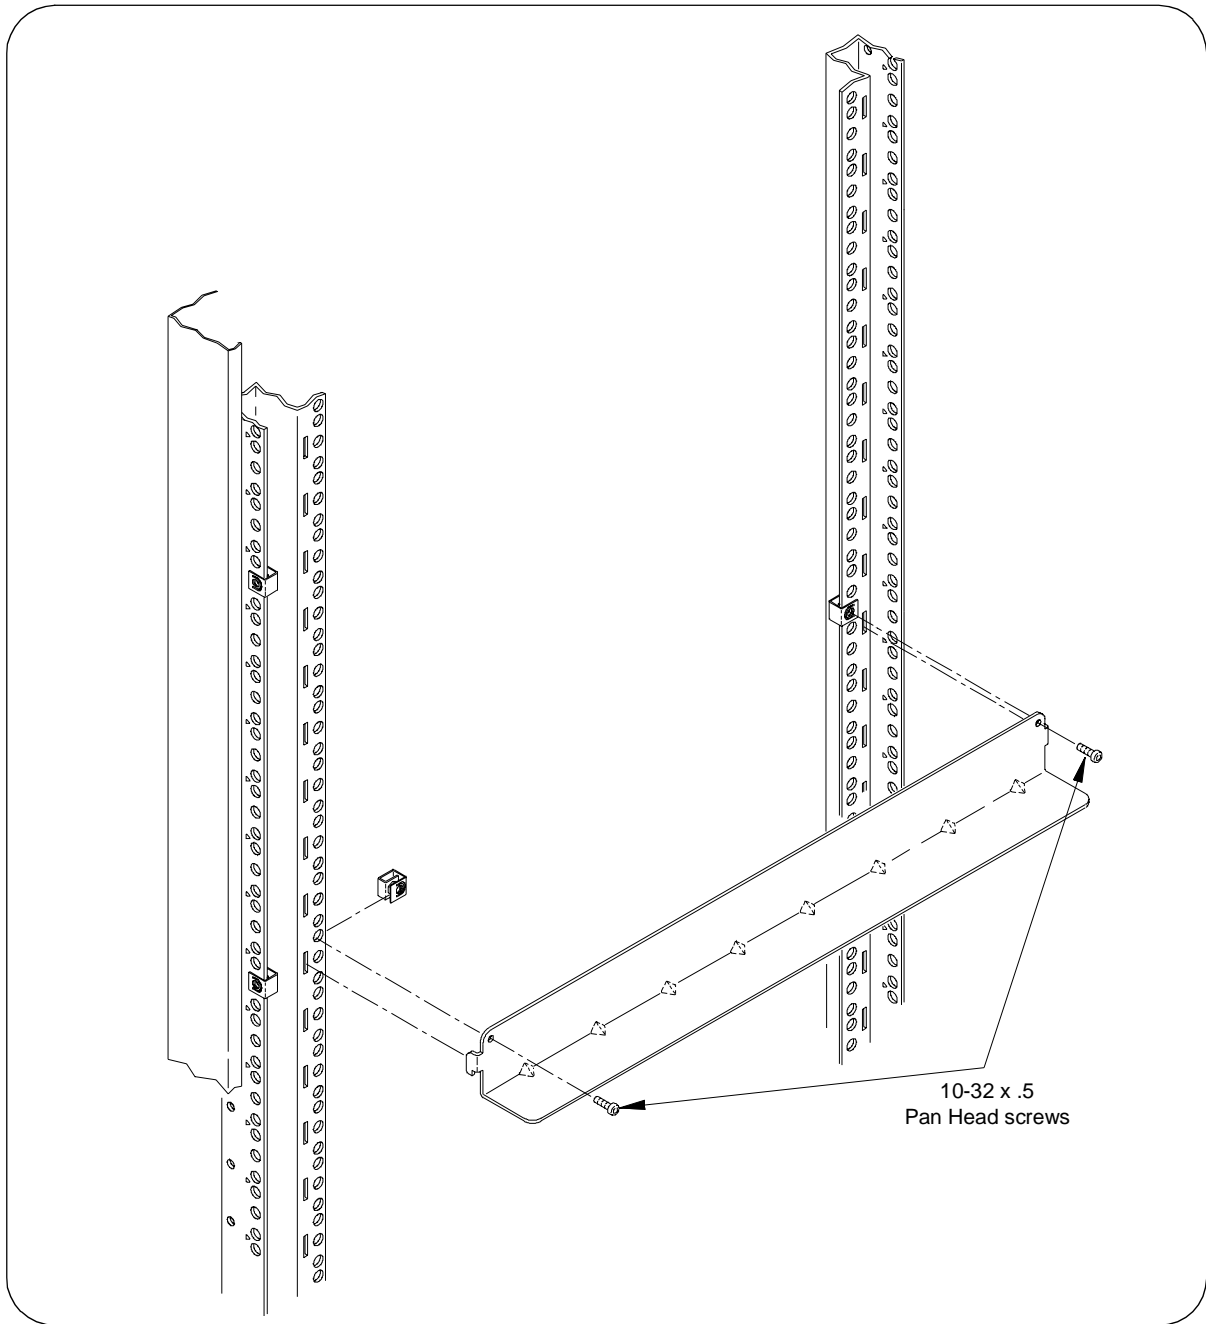

Figure 3 . Attaching the Support Rails to the Rack.
4. Attach the support rails to the rack's inside vertical columns. The support rails must be positioned in the **bottom** EIA rack unit for Options AXA or AXB, or in the second EIA rack unit up from the bottom for Option AXC. Use four channel nuts and the four 10-32 x 0.5 support rail-to-rack pan head screws to secure the rails as shown in Figure 3.